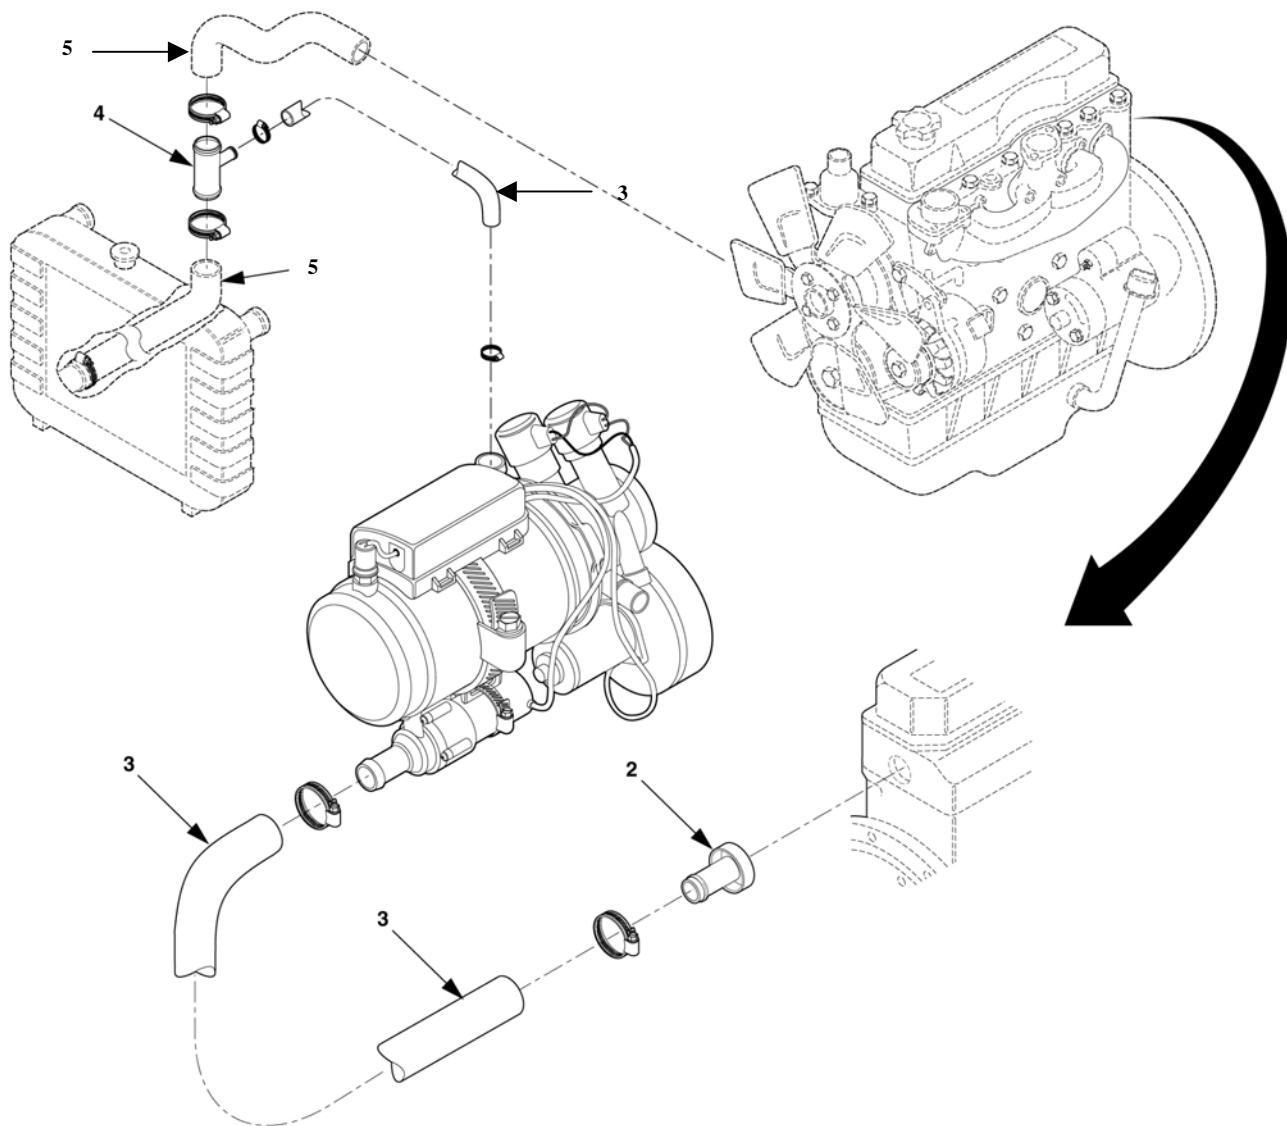

Figure 4-37. Coolant Hoses and Expansion Plug
9. Loosen clamps (1), Figure 4-37 and remove coolant hoses (3) from tee fitting (4) and expansion plug (2). Be sure to use a suitable container to catch coolant from hoses. Remove expansion plug (2) from rear of engine block and replace with new one. Refer to engine TM 9-6115-254-24. Remove coolant hose tee fitting (4) from lower radiator hose (5) and replace with new radiator hose.